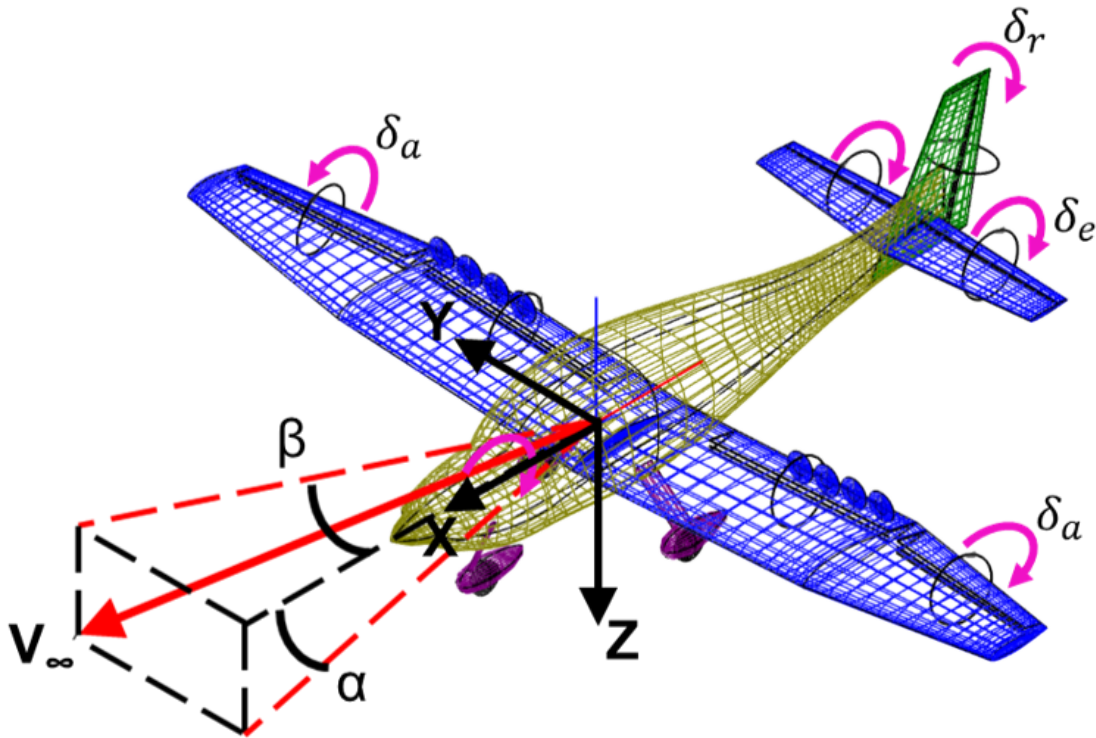

Figure 1: Axes definition for control surfaces and body axes of ADEPT-FC aircraft.
- 21 tests will run. Displayed will be test number, state input, and AP inputs. Control surfaces will deflect. To ensure proper control surface deflection direction, watch each surface and ensure it moves as expected. Figure 1 provides control surface and body axes definitions. The program will automatically check as well.
- Angular tests will run in 15 second intervals. Each test will display the expected deflection angle. Compare the expected deflection to the actual deflection as measured by the 3ft radius protractor. Deflection directions are determined by Figure 1.